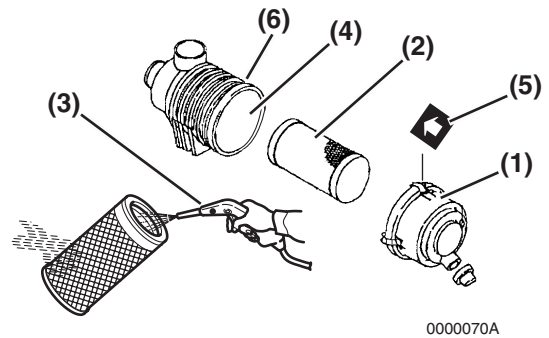
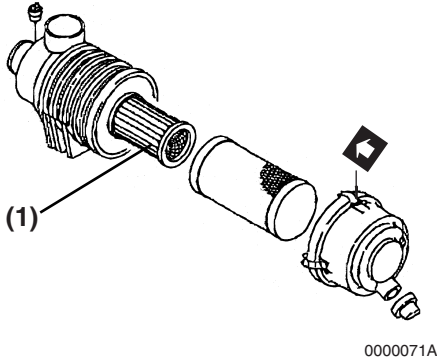

Figure 5-12
Figure 5-13
Note that a typical air cleaner is shown in **Figure 5-12** and **Figure 5-13** for illustrative purposes only.
1. Unlatch and remove the air cleaner cover (**Figure 5-12, (1)**).
2. Remove the element (**Figure 5-12, (2)**) (outer element if equipped with two elements).
3. Blow air (**Figure 5-12, (3)**) through the element from the inside out using 42 - 71 psi (0.29 - 0.49 MPa; 3.0 - 5.0 kgf/cm²) compressed air to remove the particulates. Use the lowest possible air pressure to remove the dust without damaging the element.
4. If the air cleaner is equipped with a double element, only remove and replace the inner element (**Figure 5-13, (1)**) if the engine lacks power or the dust indicator actuates (if equipped).
8. Install the element into the air cleaner case (**Figure 5-12, (4)**).
9. Reinstall the air cleaner cover making sure you match the arrow (**Figure 5-12, (5)**) on the cover with the arrow on the case (**Figure 5-12, (6)**).
Replace the air cleaner element (**Figure 5-12, (2)**) every 500 hours even if it is not damaged or dirty.
When replacing the element, clean the inside of the air cleaner case (**Figure 5-12, (4)**).
If the air cleaner is equipped with a double element, *only remove and replace the inner element (Figure 5-13, (1)) if the engine lacks power or the dust indicator actuates (if equipped)*. This is in addition to replacing the outer element.